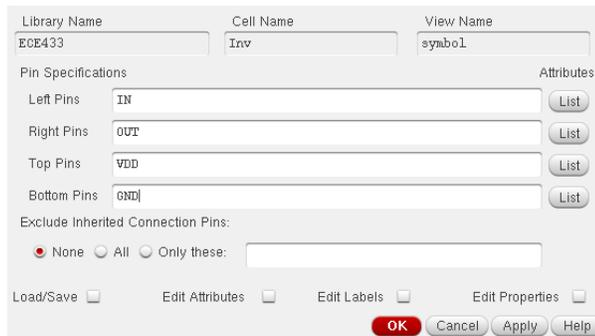

Figure 3: Direction of pins in the inverter.
- In your Schematic window, go to “**Create > Cellview > from Cellview**” and click OK. A new window will open with options for symbol generation. Here you can the set positions of the pins as you desire, as shown in figure 3. Click OK.